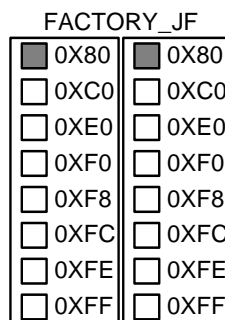

Figure 5: Edit Block View of DCM FACTORY\_JF Settings
- Check the two 0X80 options for the FACTORY\_JF DCM attribute, as shown in Figure 5.